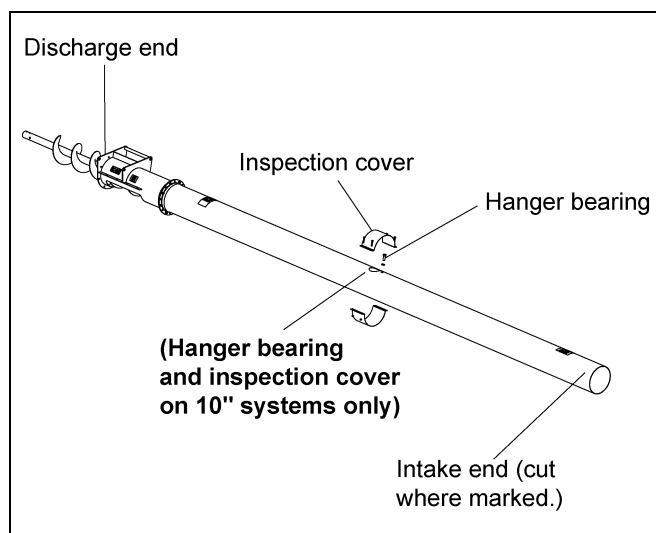

Figure 4D
- B. Remove the hopper from the tube. Slide the flight out of the discharge end of the tube. It is not necessary to remove the flight completely; just slide it out far enough to clear the area where you have marked the cut. (See Figure 4D.)